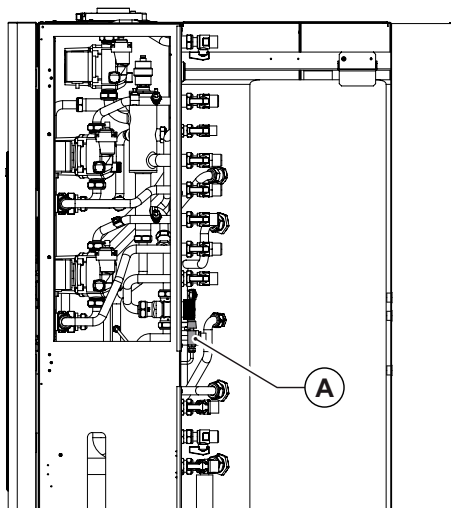

Fig. 3 Filler cock
If "shutdown due to insufficient pressure in system" error **E04** starts flashing (indicating safety water pressure switch triggering), fill the system by opening the filler cock as shown in Fig. 3 Filler cock. **E04** error is displayed when system pressure drops below 0.4 bar and error will be automatically reset as soon as system pressure reaches 1.0 bar. Water pressure must be 1-1.3 bars while the boiler is cold.
- turn the filler cock Fig. 3 Filler cock anticlockwise to allow water to enter the boiler;